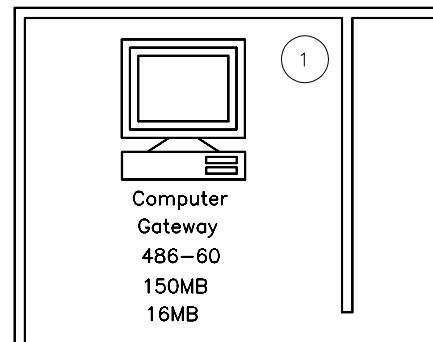

Figure 17-49 Zoomed view of the first computer
1. Open the drawing that was created in Example 2. The drawing has six blocks with attributes. The name of the block is **COMP**, and it has five defined attributes, one of them is invisible. Zoom in so that the first computer is displayed on the screen (Figure 17-49).